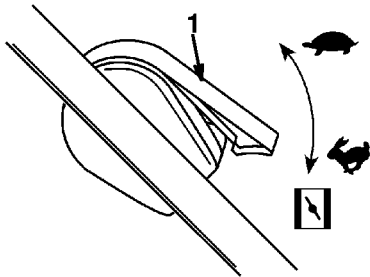

Figure 11
1. Move throttle lever to  position (Fig. 11).